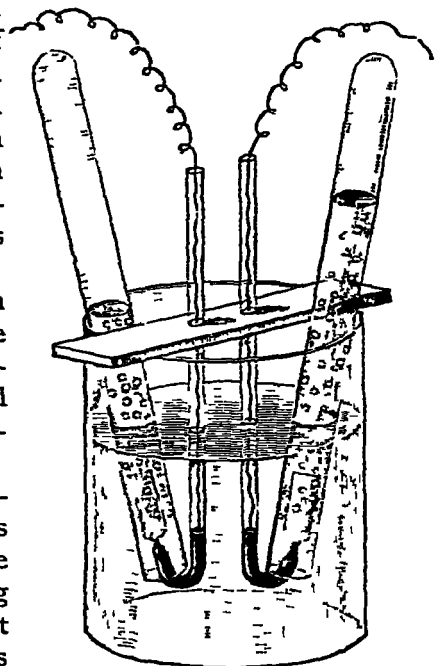

FIG 220
Two pieces of glass tube are drawn out and platinum wires inserted (p 15). The glass is melted and closes upon the platinum wire, the tubes are then bent as in fig 220. Strips of platinum are placed upon a brick, a wire is placed upon each, both intensely heated with a Bunsen flame, and then smartly tapped with a hammer, the wire and foil are thus welded.
Pour mercury into the open ends of the tube, then arrange as in fig 220, and dip the terminals from a good Grove cell into the mercury. Invert a test-tube full of water over each.
*Electro-chemical equivalent* —A strong current after decomposing water, as in fig 220, might pass in turn through a solution of the various salts. The amount of the *ions* can be collected and weighed. If 2 grams of hydrogen be liberated, 16 grams of oxygen will be liberated, 63 grams of copper, 207